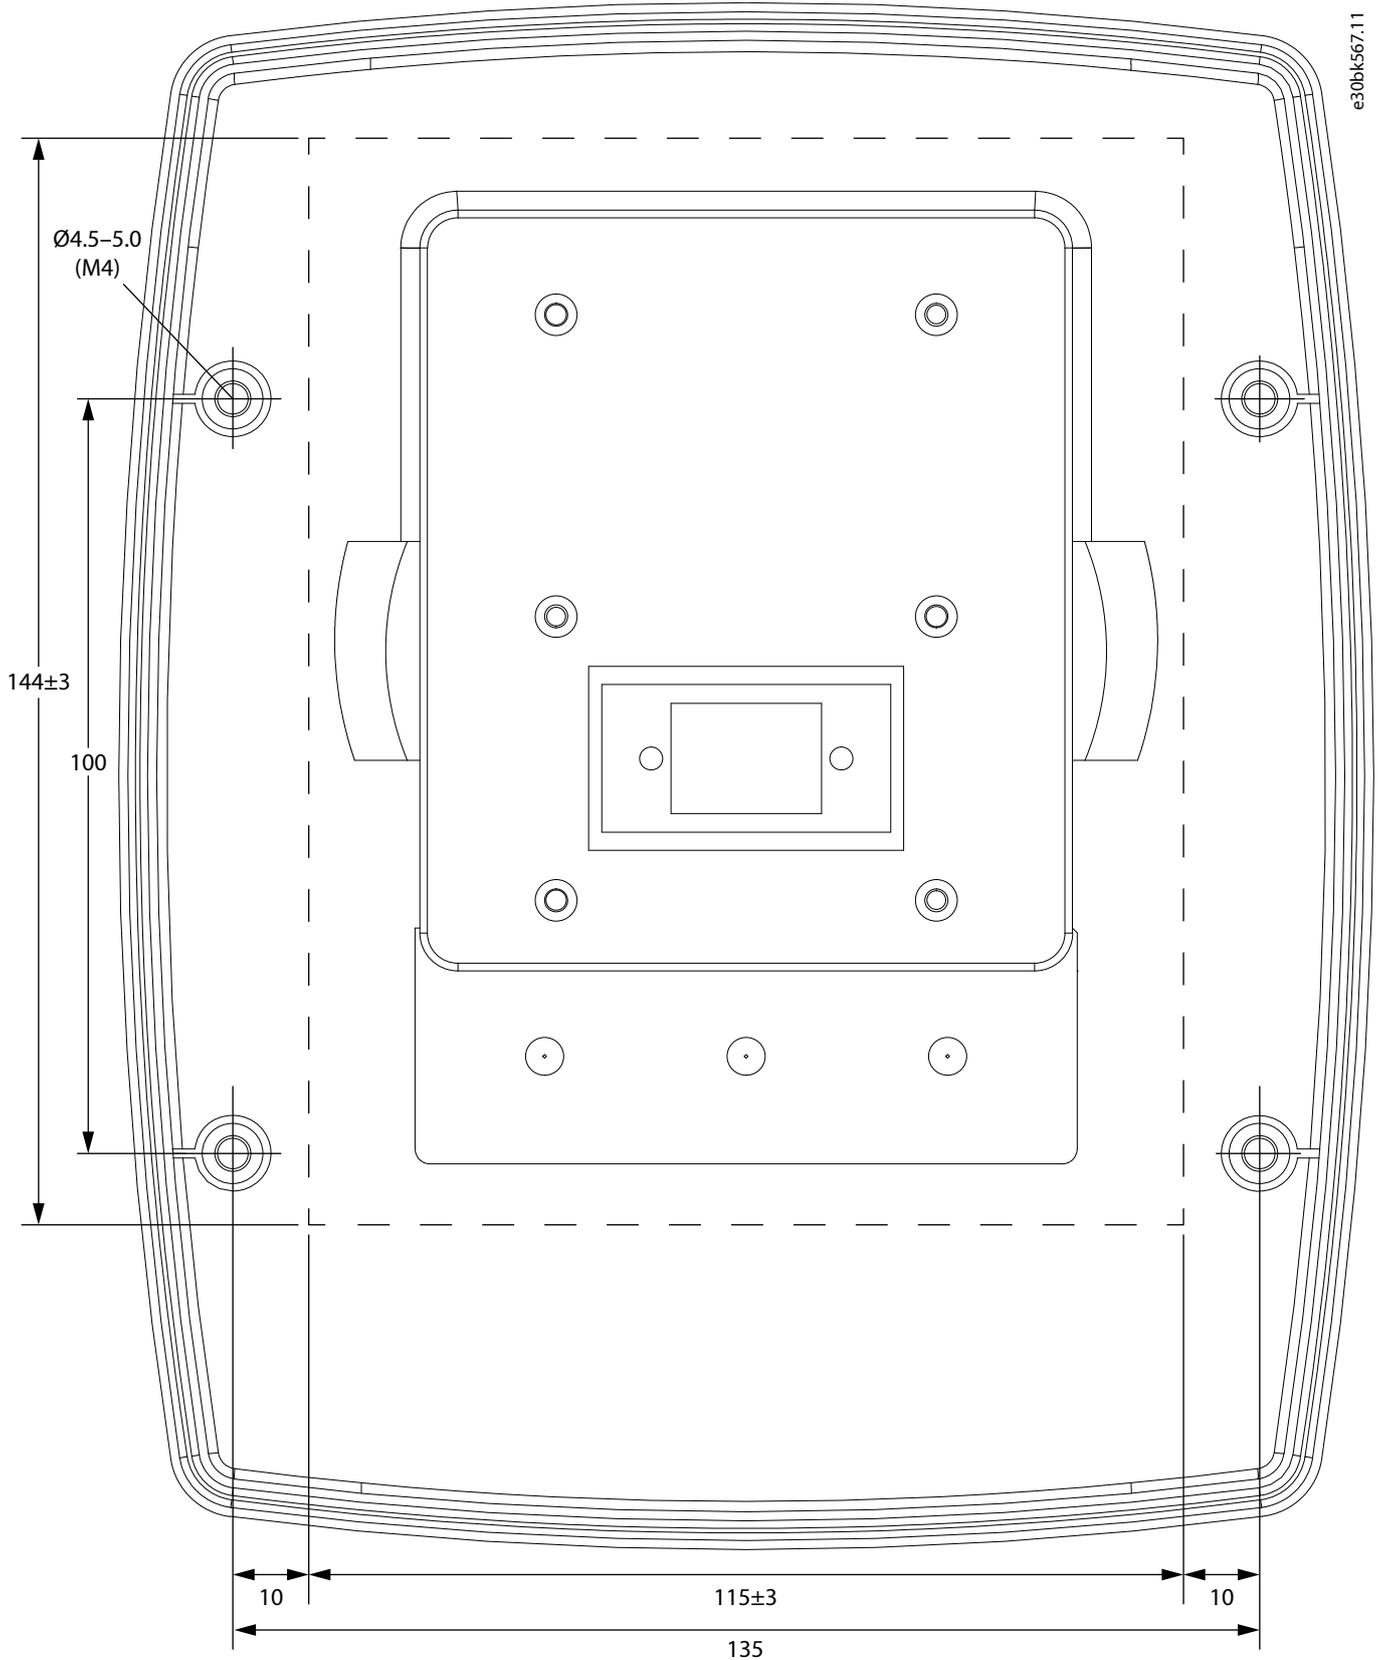

Figure 6: Door Cutout and Screw Hole Dimensions for the Door Keypad Mounting Kit, Dimensions in mm (Real Scale)
1. Make an opening in the cabinet door for the door keypad using the keypad dimensions (real scale) in Figure 6. The dimensions of the opening must be 144 (±3) mm x 115 (±3) mm.
2. Make the holes for the screws (M4x4) using the real scale dimensions of Figure 6.